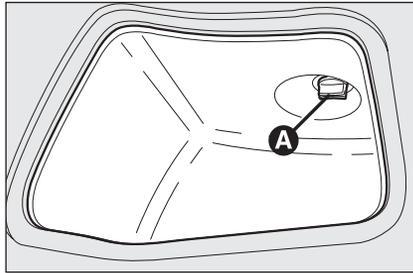

fig. 34
- remove the protection cover by operating device **A**-fig. 34;